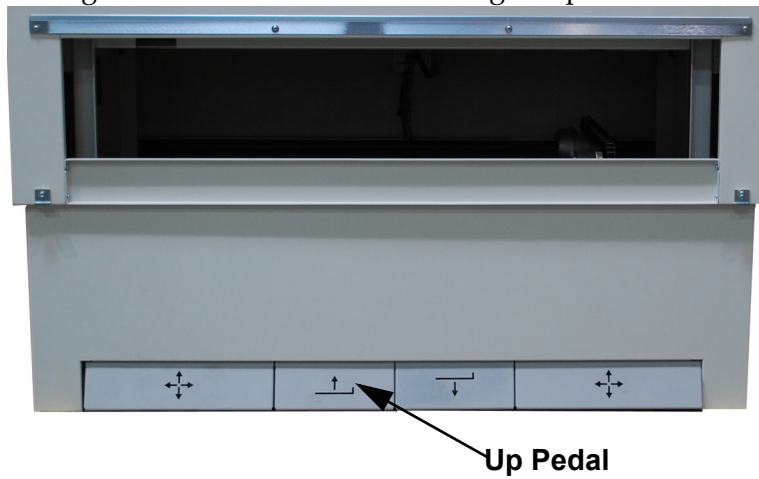

Figure 2-5. Up Pedal
- 10 Press and hold the Up pedal (1 in Figure 2-5) until the base rises to its mid-level position where it will stop. Press and hold the Up pedal again until the base rises to its highest position where it will stop.